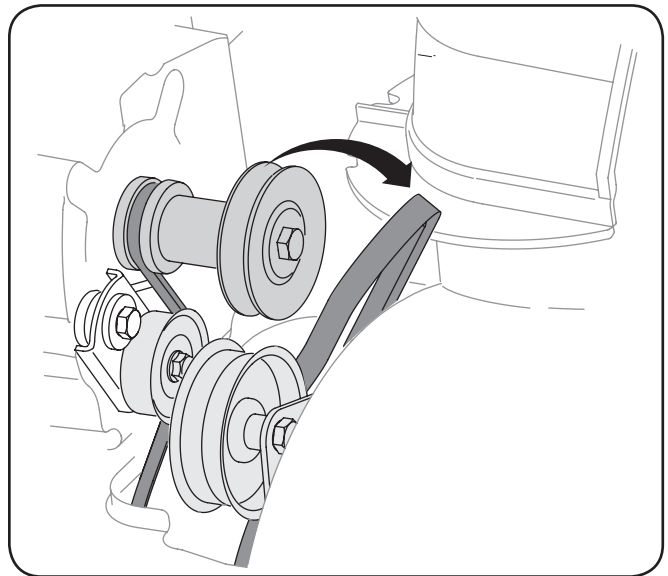

**Figure 7-3**
4. Roll the auger belt off the engine pulley. See Figure 7-3.